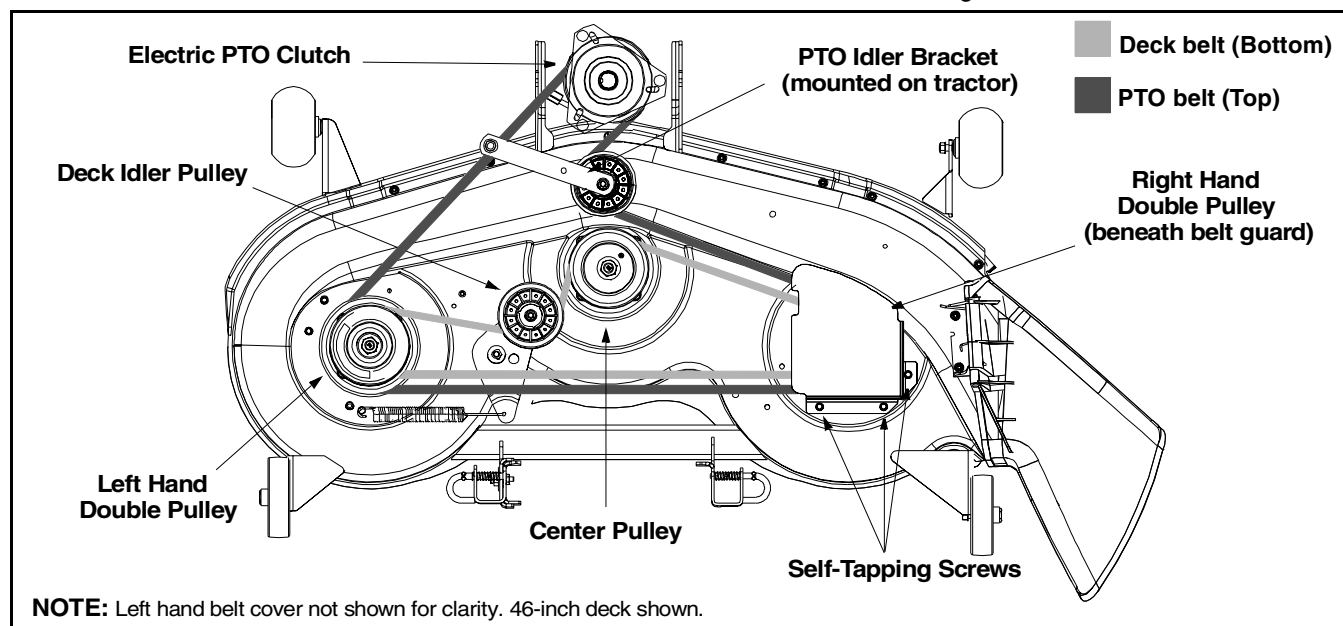

Figure 15
- Remove the PTO belt from around the electric PTO clutch. Refer to Figure 15.
- Route the new belts as shown in Figure 15.